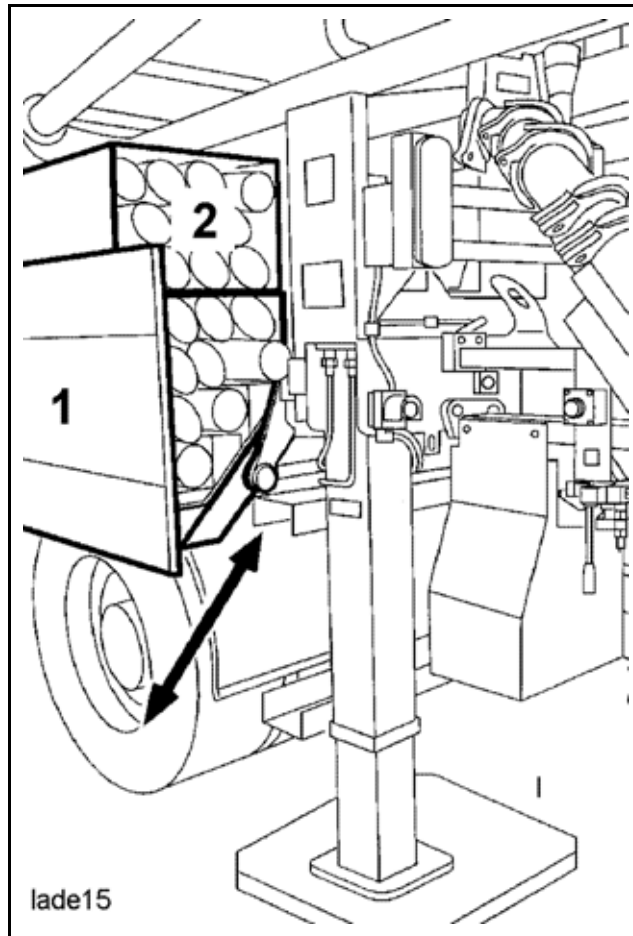

Fig. 529
The stowing box (1) (**Fig. 529**) is fitted with sleeves to receive 3-m-long pumping pipes or hoses.
As an additional accessory, the stowing box can be closed at the top with an enclosure or supplemented with an additional box (2) (**Fig. 529**).